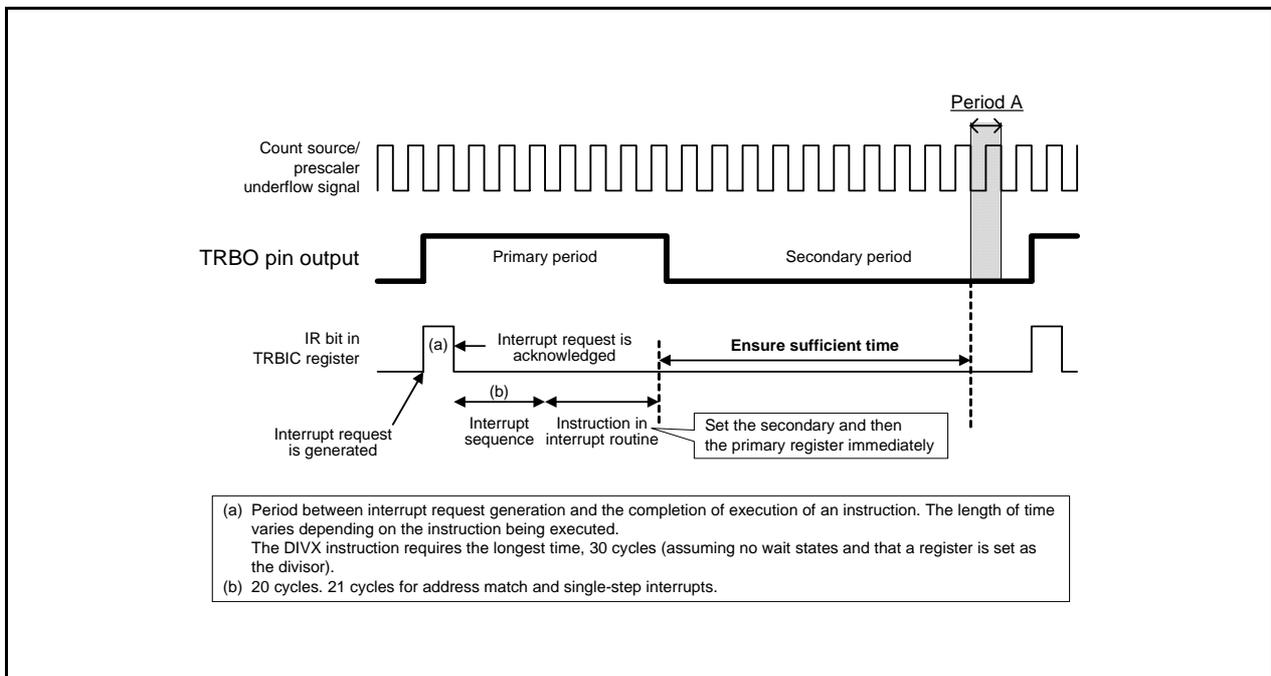

Figure 21.2 Workaround Example (a) When Timer RB Interrupt is Used
- (1) To write to registers TRBPRE and TRBPR during count operation (TCSTF bit is set to 1), note the following points:
- (2) To change registers TRBPRE and TRBPR during count operation (TCSTF bit is set to 1), synchronize the TRBO output cycle using a timer RB interrupt, etc. This operation should be performed only once in the same output cycle. Also, make sure that writing to the TRBPR register does not occur during period A shown in Figures 21.2 and 21.3.
As shown in Figure 21.2, write to registers TRBSC and TRBPR in the timer RB interrupt routine. These write operations must be completed by the beginning of period A.